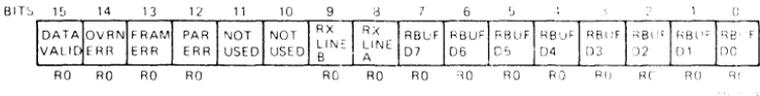

Figure 5 Receiver Buffer Bit Assignments
**Receiver Buffer** – The receiver buffer (RBUF) is a 16-bit read-only register which contains the received character at the output of the FIFO buffer. A read of the register causes the character entry to be extracted from the buffer and all other entries to bubble down to the lowest unoccupied location. Only the valid data bit (RBUF bit 15) is cleared by BINIT or by setting device master clear (CSR bit 4). Bits 0–14 are not affected. The bit assignments for the RBUF register are listed in Table 4 and the format is shown in Figure 5.